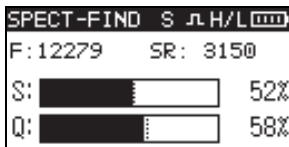

Figure 5
4. Press  again to figure 5. The instrument will analyse signal and set parameters automatically and display the current signal strength and signal quality. Then align the dish slightly to maximize the signal quality.